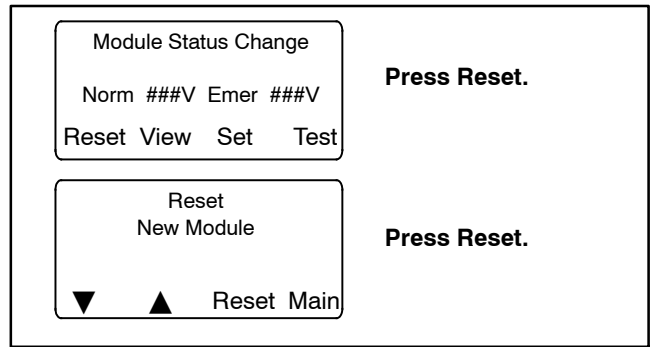

Figure 1-22 Menus after Module Connection
Installing or reconnecting one or more accessory modules triggers the Module Status Change message. See Figure 1-22. Press the Reset button to display Reset New Module. Press the Reset button from that menu. The controller recognizes the module type(s). See Figure 1-23.
8. Close the enclosure door and reconnect power to the ATS. The display will show *Module Status Change*. See Figure 1-22.